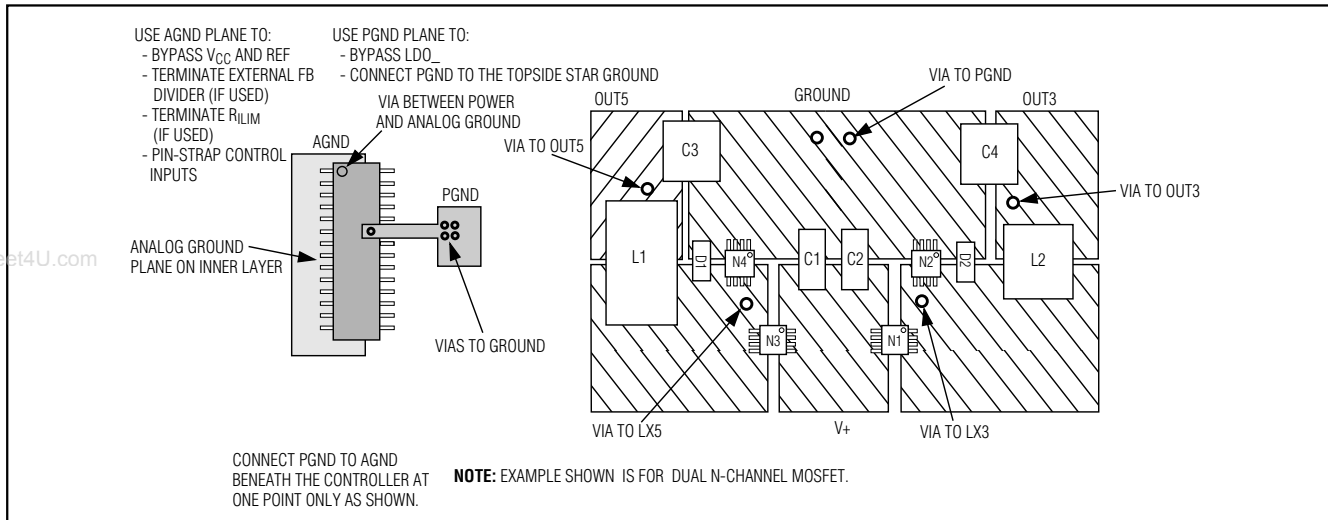

Figure 13. PC Board Layout Example
Careful PC board layout is critical to achieve minimal switching losses and clean, stable operation. This is especially true when multiple converters are on the same PC board where one circuit can affect the other. The switching power stages require particular attention (Figure 13). Refer to the MAX1999 Evaluation Kit data sheet for a specific layout example.
4) Make the DC-DC controller ground connections as follows: near the device, create a small analog ground plane. Connect the small analog ground plane to GND (Figure 13) and use the plane for the ground connection for the REF and V_{CC} bypass capacitors, FB dividers, and ILIM resistors (if any). Create another small ground island for PGND, and use the plane for the V₊ bypass capacitor, placed very close to the device. Connect the AGND and PGND planes together at the GND pin of the device.